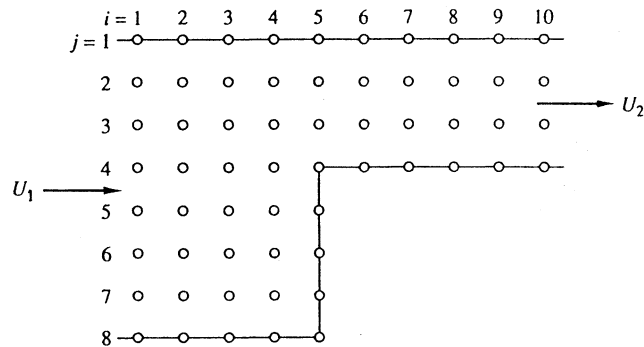

Fig. P8.108
**8.108** Consider two-dimensional potential flow into a step contraction as in Fig. P8.108. The inlet velocity  $U_1 = 7$  m/s, and the outlet velocity  $U_2$  is uniform. The nodes  $(i, j)$  are labelled in the figure. Set up the complete finite-difference algebraic relation for all nodes. Solve, if possible, on a digital computer and plot the streamlines.